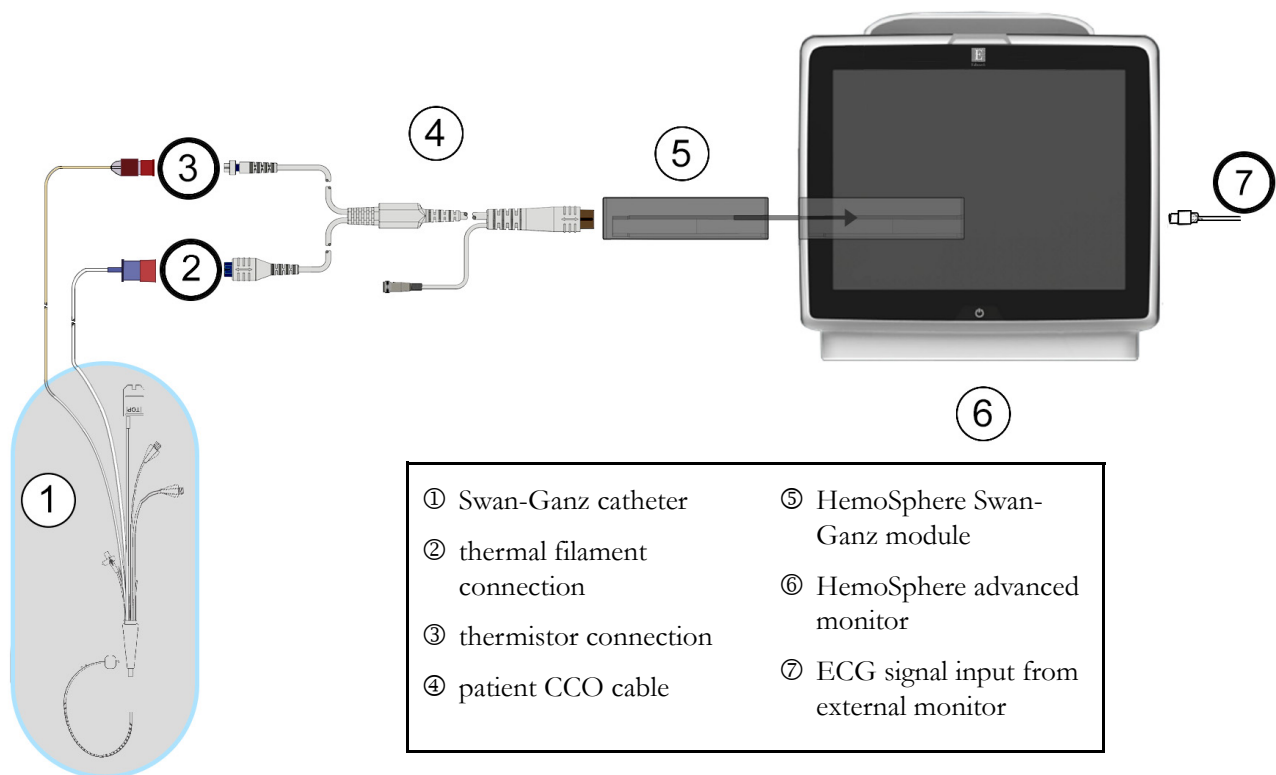

Figure 9-7 EDV/RVEF connection overview
- 2 Attach the catheter end of the patient cable to the thermistor and thermal filament connectors on the Swan-Ganz CCombo V catheter. These connections are emphasized by ② and ③ in figure 9-7.